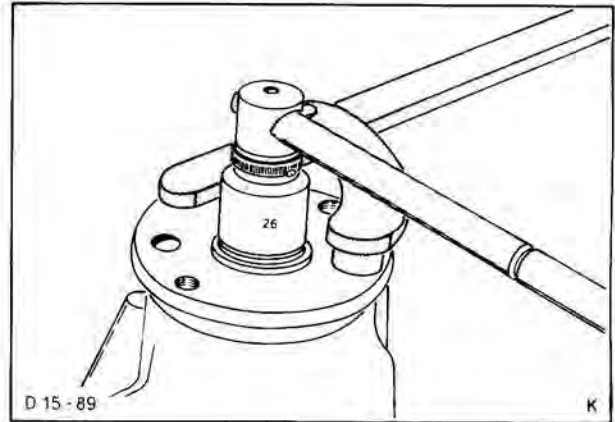
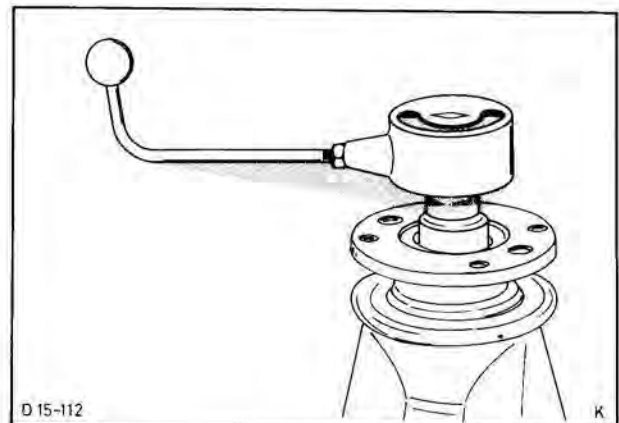

Fig. 46. Hold drive pinion flange and tighten nut slowly
Fig. 47. Check turning torque of drive pinion
32. Locate drive pinion in axle casing. Fit taper roller bearing and drive pinion flange. Screw on the old self-locking nut kept from the dismantling operation. Hold drive pinion flange with flange-holding wrench and tighten nut slowly, Fig. 46. Keep constant check on drive pinion running torque with pre-load gauge. Do up nut until same torque is reached as that noted at the start when adjusting the master pinion (e.g. 2,3 Nm), Fig. 47.